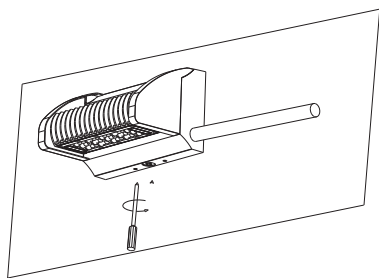

Figure 2-5
5.Tighten the pipe on the luminaire; after installation, tighten the screws.(Figure 2-5)